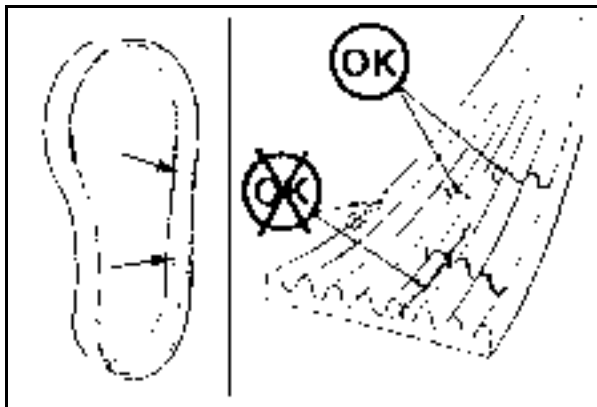

FIG 7.42
**INSPECTION** - Visually inspect the belt daily (fig. 7.42). Check the belt for intersecting cracks (fig. 7.42). Transverse (across the belt width) cracks are acceptable. Longitudinal (direction of belt length) cracks that intersect with transverse cracks are not acceptable. Replace the belt if it is frayed or has pieces of material missing.